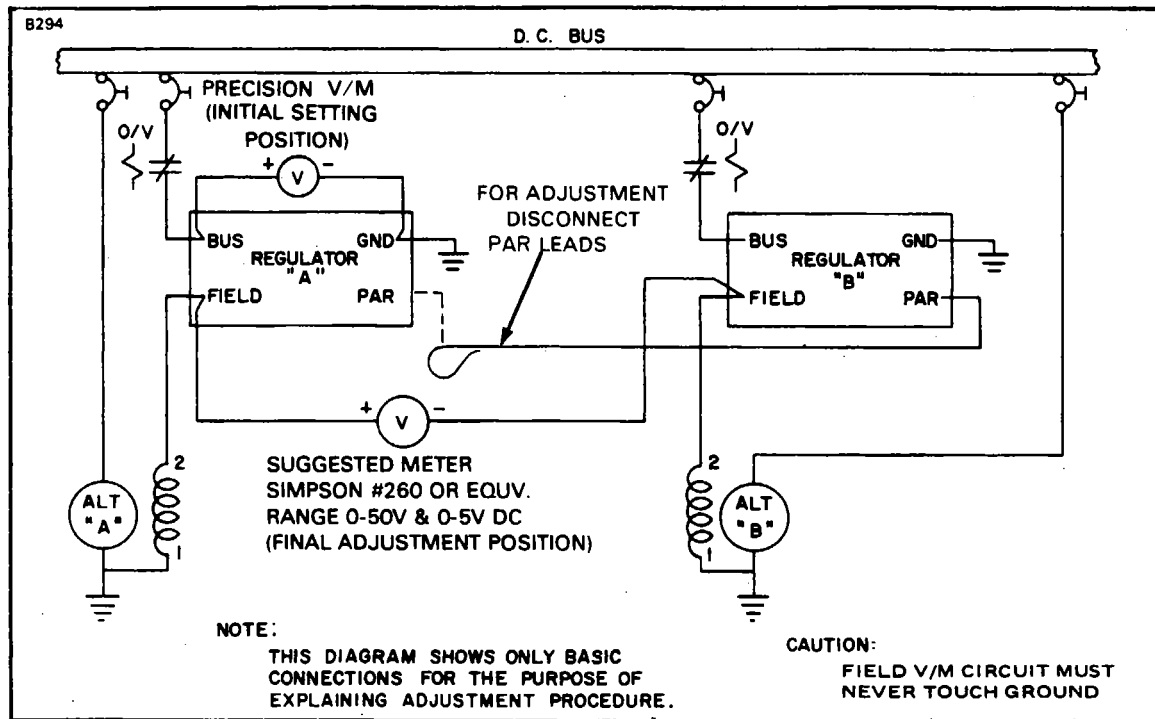

Figure 11-54. Adjusting Regulator (Lamar)
11-96. ADJUSTING REGULATOR (LAMAR). (Refer to Figure 11-54.)
a. These regulators are normally used in parallel alternator systems of multi-engine aircraft. Their final adjustment should be made in actual operation in the aircraft system with test equipment connected as shown in Figure 11-54. The balance adjustment is made while operating only one engine, either left or right. The engine to be operated must be selected so as to permit the technician a completely safe access to both of the regulators, so that they may be adjusted while the engine is operating without danger. We shall designate the engine selected to be operated as "LEFT" and the inoperative engine as "RIGHT" for purposes of discussion.
f. Connect a Simpson #260 (or equivalent voltmeter, range 0-50 and 0-5 VDC, as indicated in Figure 11-54. The positive (+) lead of the voltmeter is connected to the "field" terminal of the "LEFT" regulator and the negative (-) lead of the voltmeter is connected to the "field" terminal of the "RIGHT" regulator. Now very slowly rotate the "RIGHT" regulator voltage adjustment while observing the field circuit voltmeter. (Suggested voltmeter range setting, 0-50V.) If a reverse (downscale) reading is obtained turn the "RIGHT" regulator adjustment counterclockwise to bring the meter up scale. Then, very slowly turn the "RIGHT" regulator adjustment clockwise to make the field voltmeter read near zero. A stable reading should not be expected. A correct adjustment has been achieved when the meter will remain briefly in the vicinity of zero, swinging both upscale and downscale. The use of a low range on the voltmeter is recommended for the fine adjustment. (Suggested voltmeter range setting, 0-5V.)